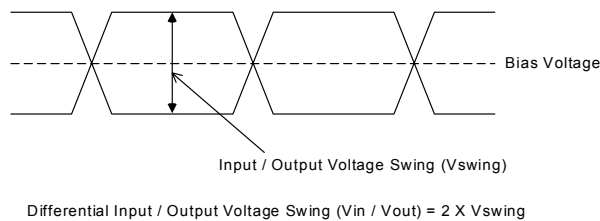

Figure 6 Definition of differential input/output voltage swing
1. Refer to Figure 6.
1. Rdiff=100ohm. Refer to figure 6.